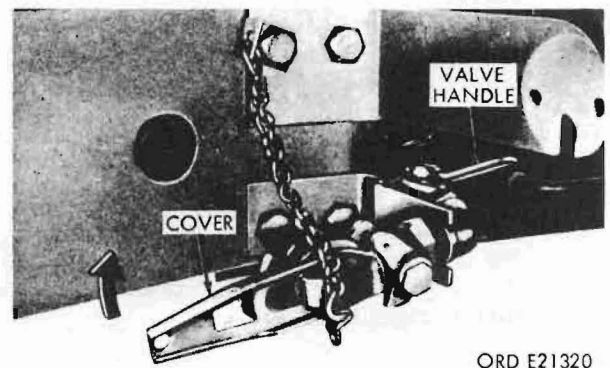

Figure 47. Trailer air couplings
- (33) Trailer air couplings (fig. 47). The trailer air couplings, located on the rear of the truck on either side, is used to provide air for the trailer brakes.